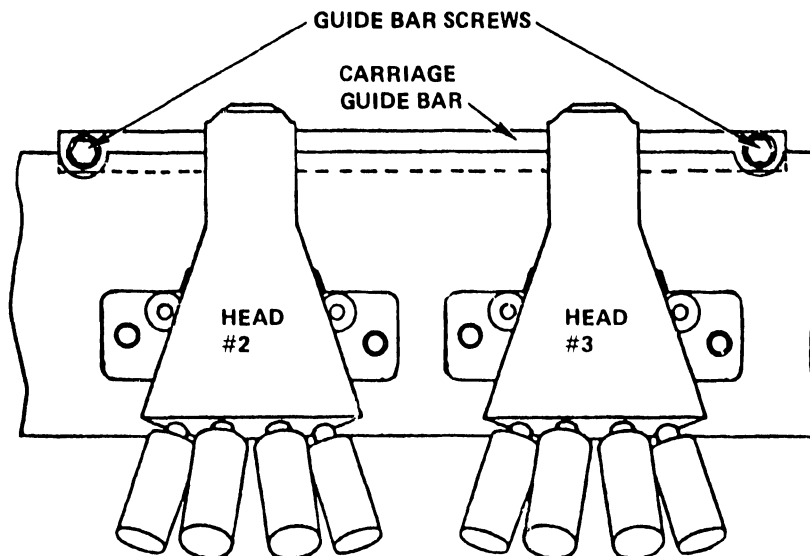

Figure 5-50. Carriage Guide Bar
11. Remove the two carriage guide bar screws (Phillips), located below the main carriage assembly, in front of print heads #2 and #3. See Figure 5-50. These screws are accessible only when the carriage is in the center of its track.